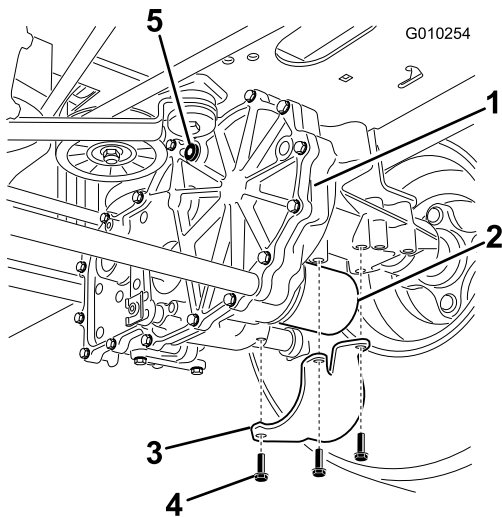

Figure 63
6. Locate the filter and guards on each transaxle-drive system (Figure 63).
7. Remove the 3 screws securing the filter guard and remove the guard (Figure 63).
4. Install the filter guards over each filter that you previously removed (Figure 63).
5. Use the 3 screws to secure the filter guards (Figure 63).
8. Install the vent plug (Figure 63).